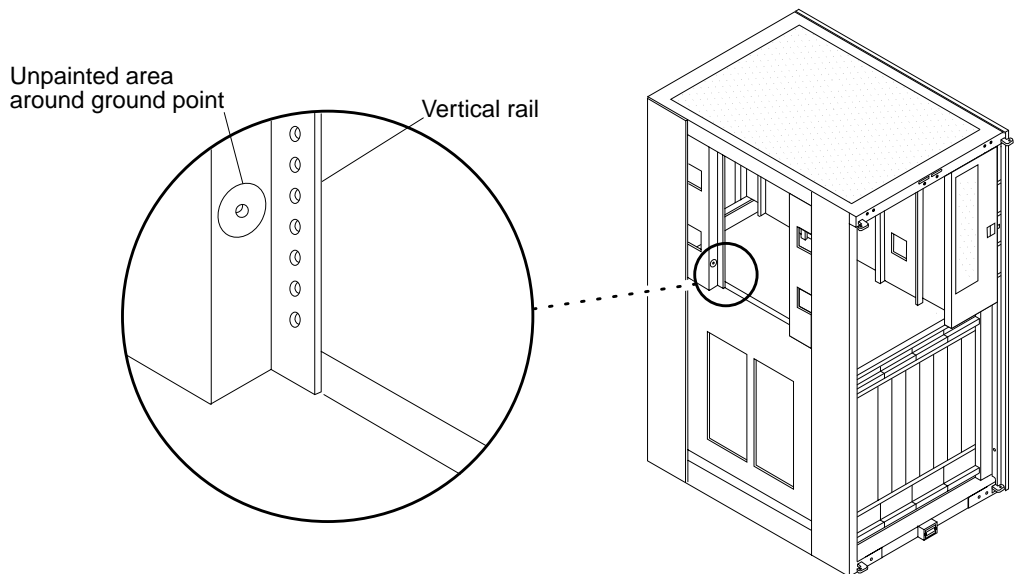

FIGURE 4 Ground Point Location—Typical
6. **Attach a ground cable to each vertical rail on the left side of the chassis (FIGURE 4).**